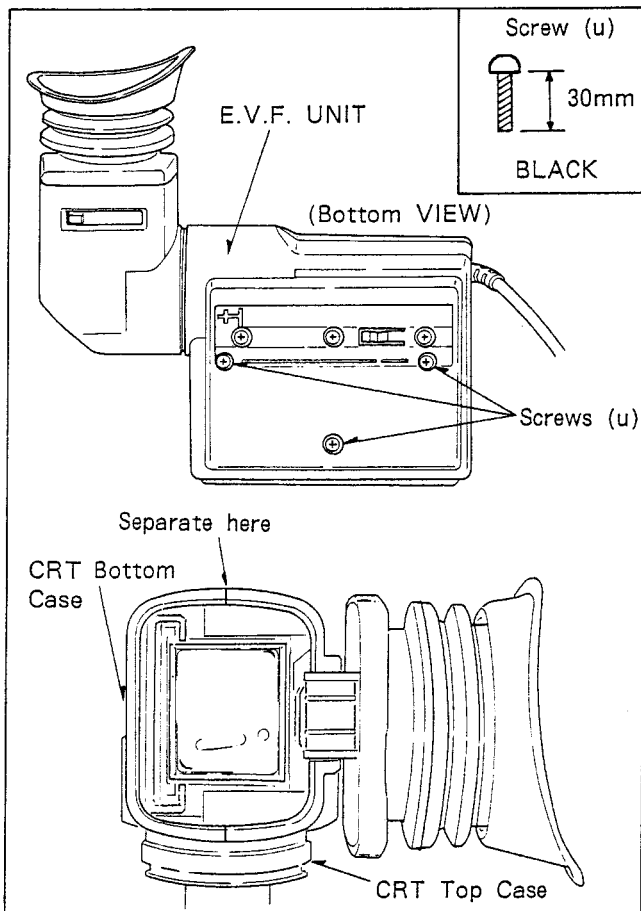

Fig. D22
- (1) Remove 3 Screws (u) on the bottom of the E.V.F. Unit and then remove the Bottom Case.
- (2) Remove CRT Top Case from CRT Bottom Case shown in Fig. D22.